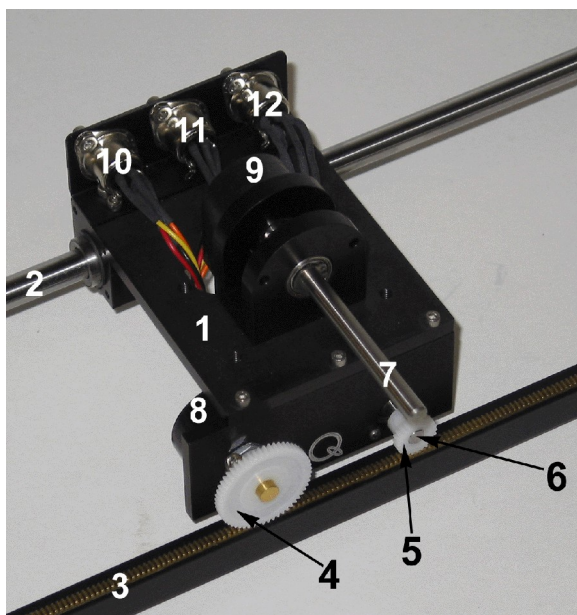
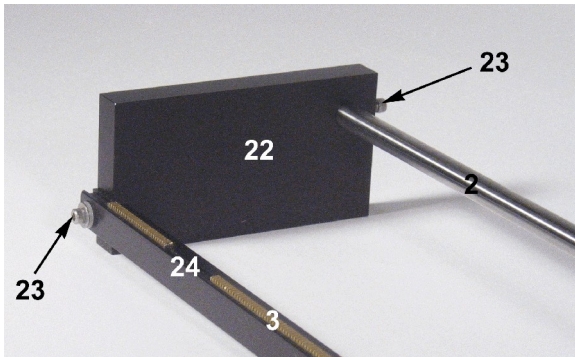
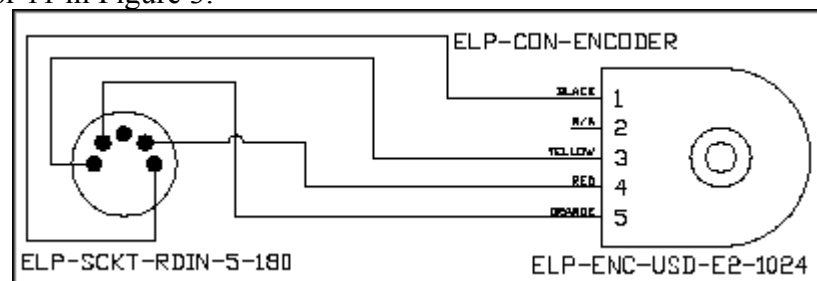

Figure 3 IP02: Front View
Figure 7 Rack Left End
Figure 10 IP02 Encoder Wiring
As a quick nomenclature, Table 5, below, provides a list of all the principal elements composing the IP01 and IP02 systems. Every element is located and identified, through a unique identification (ID) number, on the IP01 and/or IP02 systems represented in Figures 3, 4, 5, and 6, below, as well as Figures 7 and 8.
Moreover as illustrated in Figures 7 and 8 below, parts of the track are missing (feature or "component" #24) at both ends of the IP01 or IP02 rack. This feature plays the role of a hardware safety watchdog in preventing the IP01 or IP02 cart from running into one of the track's ends, which could potentially be damaging.
The supplied motor cable is designed to connect from a Quanser Universal Power Module to a 4-pin DIN connector, shown as component # 12 in Figures 3, 4, and 6, on page 7.
On the IP02, both cart and pendulum positions are measured with two optical encoders, represented in Figure 3 by components # 8 and 9, respectively. Having an encoder (as opposed to a potentiometer) sensing the pendulum angular position no longer constrains the range of motion of the pendulum to the inverted position. Therefore, self-erecting inverted pendulum experiments become possible. The encoder measuring the IP02 cart linear position does so through a rack-pinion system. Both encoders are typically identical. The encoder model used in the IP02 is a **US Digital S1 single-ended optical shaft encoder**. It offers a high resolution of 4096 counts per revolution (i.e. 1024 lines per revolution with two channels in quadrature). The complete specification sheet of the S1 optical shaft encoder is included in Appendix E. An incremental encoder gives a **relative** position signal.
The position signal generated by the encoder should be directly connected to a Quanser terminal board (a.k.a. I/O card) using a standard 5-pin DIN cable. **DO NOT connect the encoder signal to the UPM.** The internal wiring diagram of the IP02 encoder is depicted in Figure 10. The standard 5-pin DIN connector, shown in Figure 10, is also pictured as component # 10 or 11 in Figure 3.